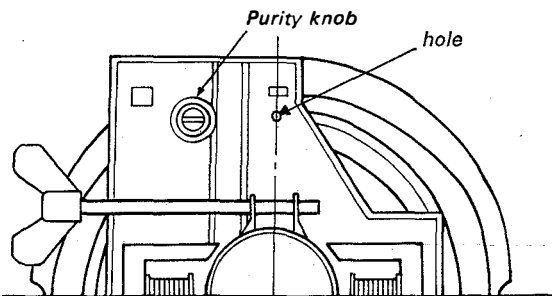

Fig. 1-1.
4. Set the purity knob to mechanical center as shown in Fig.1-1.